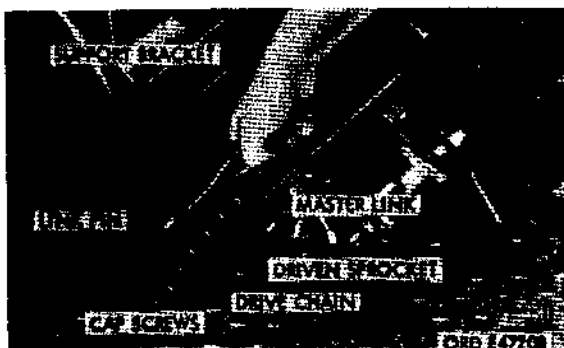

Figure 420. Separating rear winch drive chain (M62)
- (1) Remove boom and shipper assembly (par. 315).
- (2) Remove boom lift cylinder (par. 316).
- (3) Remove swing motor (par. 313).
- (4) Remove eight cap screws (fig. 414) and lockwashers securing floor plate to crane body. Remove two cap screws (fig. 420) and safety nuts securing floor plate to support bracket. Remove two cap screws (fig. 414) and safety nuts securing mounting bracket to crane body.
- (12) Secure floor plate to support bracket (fig. 420) with two cap screws and safety nuts, and secure mounting bracket (fig. 414) to crane body with two cap screws and safety nuts.